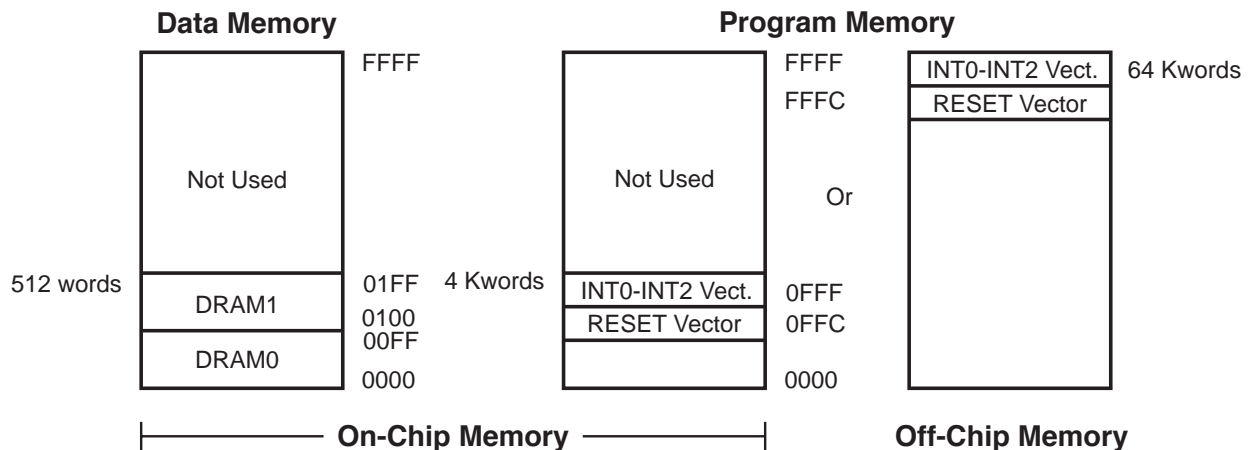

Figure 15. Memory Map
**Program Memory.** Programs of up to 4 K words can be masked into internal ROM (OTP for Z89371). Four locations are dedicated to the vector address for the three interrupts (0FFDH-0FFFH) and the starting address following a Reset (0FFCH). Internal ROM is mapped from 0000H to 0FFFH, and the highest location for program is 0FFBH. A 64 K word External Program Memory Space is available on the Z89391. The vector addresses for the Z89391 reside at FFFCH-FFFFH (Figure 15).